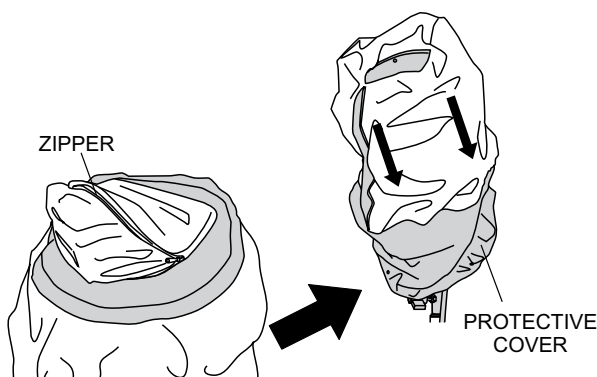

Figure 19. Unzipping the Protective Cover
3. Unzip the zipper on the protective cover (Figure 19) and roll down the protective cover over the balloon cloth.